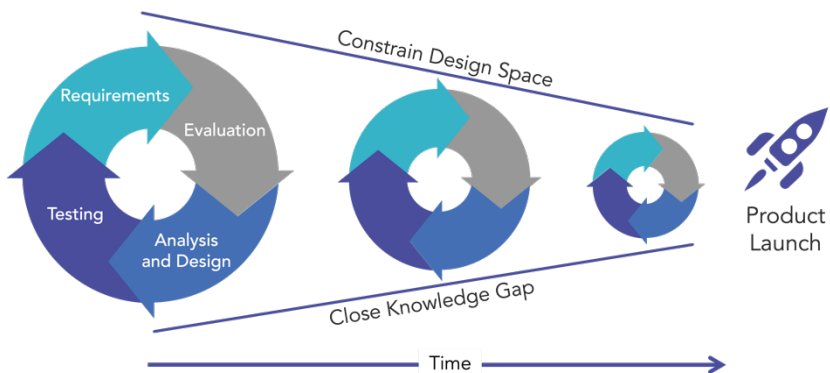

Figure 4.3: Agile hardware iterations.
- Devise iterative product development cycles within the framework of a strong NPI plan. Figure 4.3 illustrates this point.
A well-structured agile hardware development plan will gradually constrain the degrees of freedom to make design changes over time as the project progresses to product launch. Figure 4.3 shows what most people think will be the development path. There is a clear goal and there are iterative cycles of innovation (examining requirements, evaluation, analysis, and design followed by testing against the requirements). The intent is that this approach will produce better and better prototypes on the journey toward full realization into volume manufacturing.